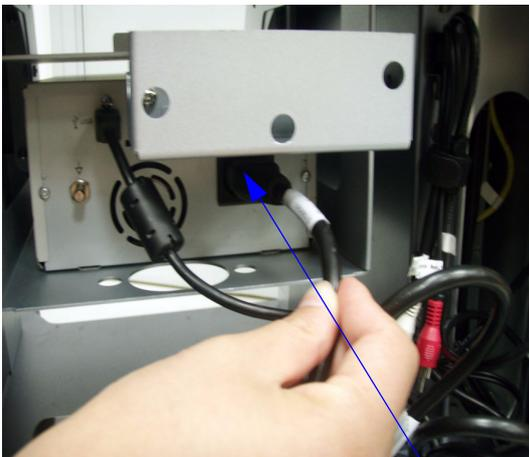

Figure 3-29 **B/W USB Printer Installation**
- 5.) Fix the B/W Print on the DVD/Print Shelf with 4 screws, refer to section Figure 3-29 on page 36.
- 6.) Put the DVD/Print Shelf under the top cabinet and fix it with 2 screws [M4X8], refer to Figure 3-29 on page 36.
- 7.) Connect the USB cable to the USB Hub, refer to Figure 3-29 on page 36.
- 8.) Replace the power cord of the B/W printer with general using cable. Use the general using cable to connect the B/W printer to the power strip, refer to Figure 3-29 on page 36.